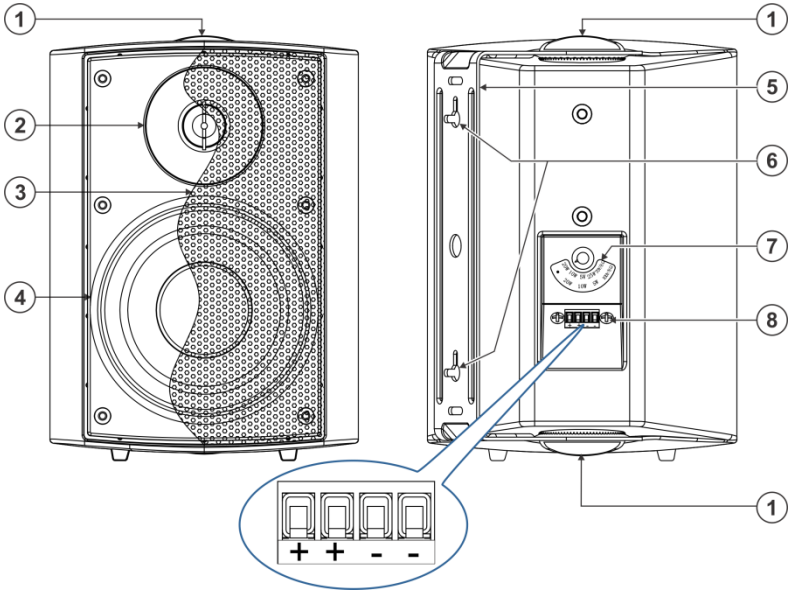

Figure 1: Galil 5-O
5. Connect one of the + and – terminal block pairs on the rear panel (see Figure 1) by connecting the wire from the: